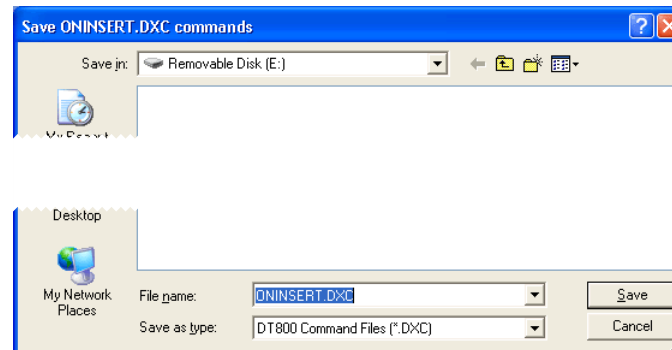

FIGURE 145 Saving the ONINSERT.DXC component of the .dxf file to the card
- f) In the Save ONINSERT.DXC Commands dialog box that opens (Figure 145), check that the card is still present in the **Save in** list box, then click **Save**. The **ONINSERT.DXC** component of the firmware upgrade file is saved to the root directory of the card.